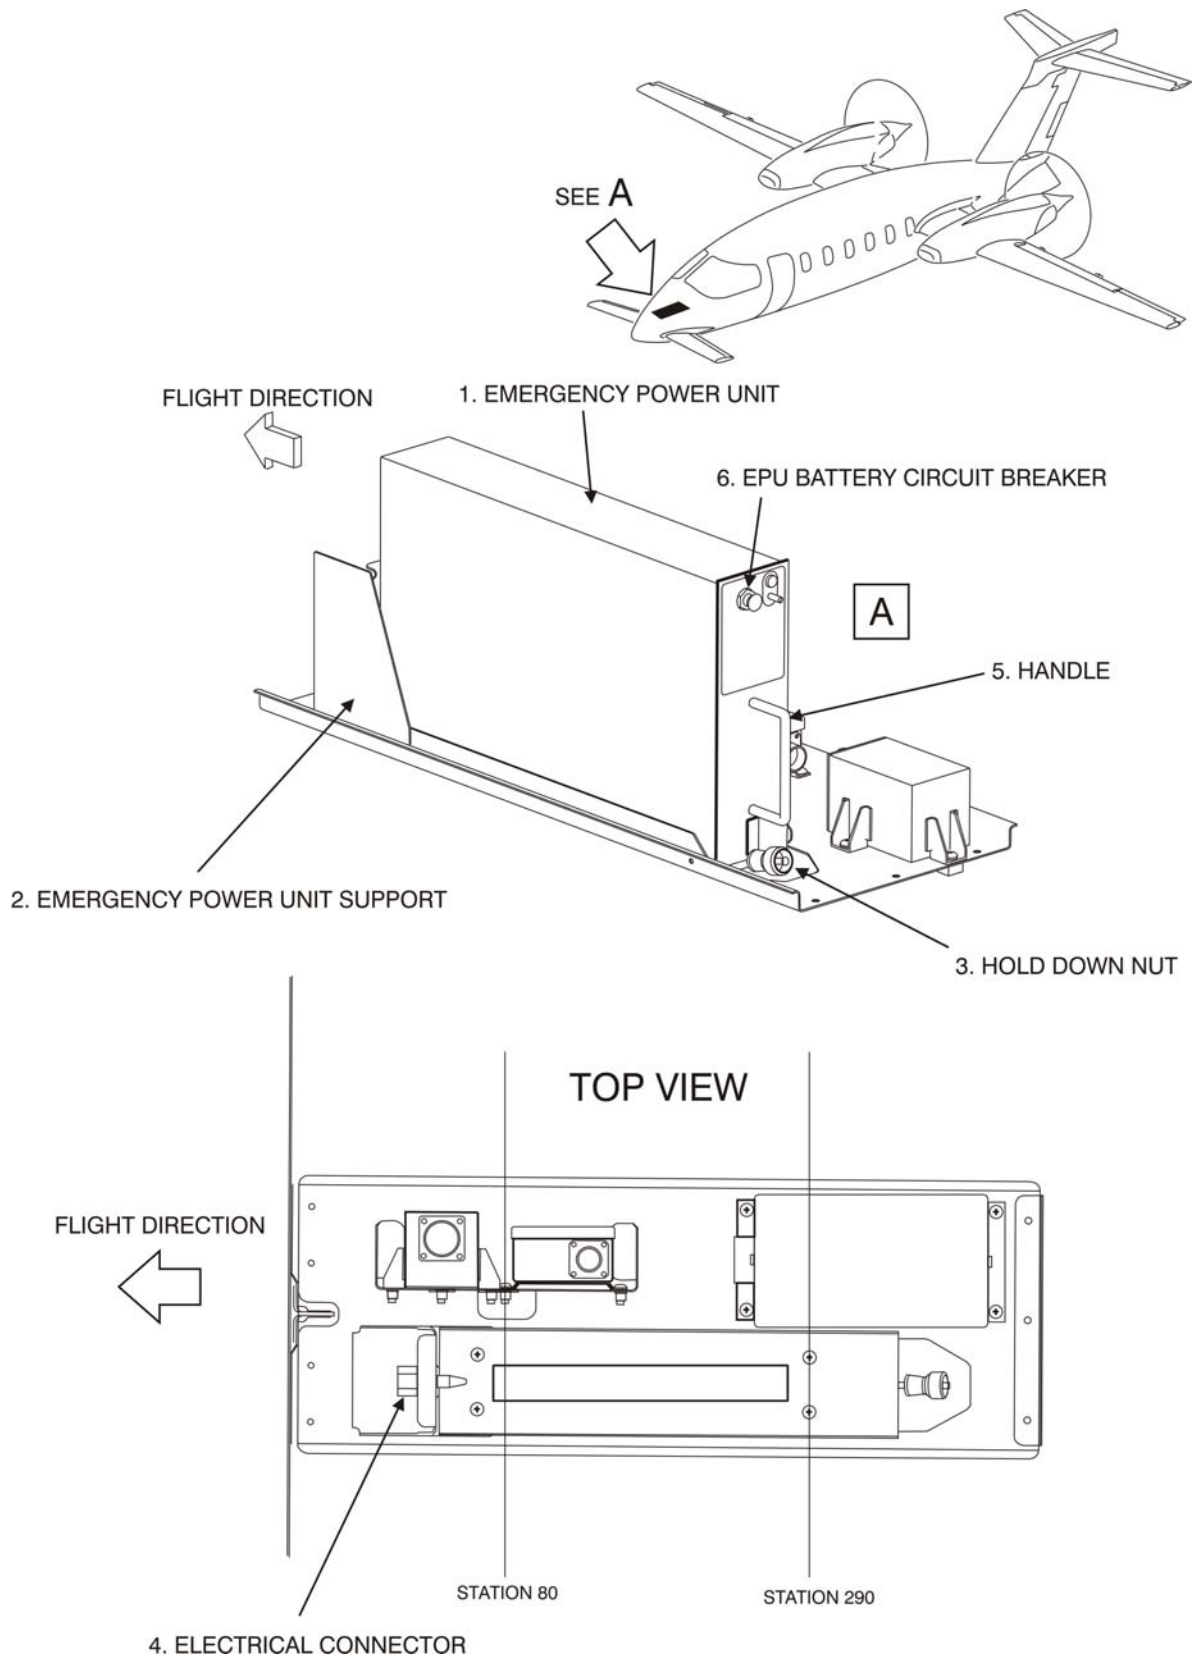

Fig. 216 - Emergency Power Unit - Removal / Installation
13. Emergency Power Unit (EPU) - Removal(Refer to Fig. 216)
- (4) Disconnect the Electrical Connector (4) and install the blanking cap on the on board connector.
- (5) Loosen the Hold Down Nut (3) and disengage the Emergency Power Unit (EPU)(1) from the Support (2).
- (6) Grasp the handle and pull out EPU from the Support (2).
14. Emergency Power Unit (EPU) - Installation(Refer to Fig. 216)